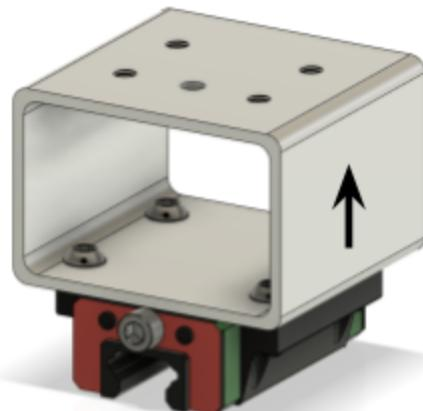

Figure 7.4
12. Install an M6x12mm bolt into the HGW20 on the side closer to the unthreaded center hole on the top surface of the frame beam as shown in Figure 7.4.